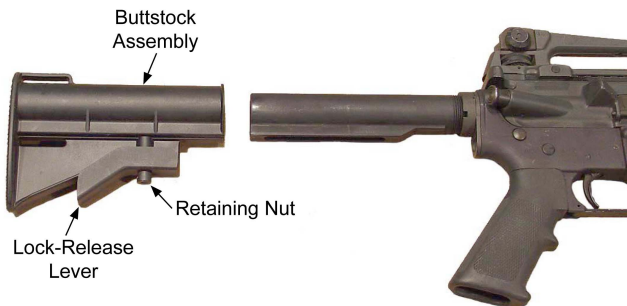

Figure 3-18. M4 / M4A1 CQBW Buttstock Assembly
- (1) Extend buttstock assembly.
- (2) Grasp the lock release lever in the area of the retaining nut.
- (3) Pull downward on rear of lock release lever.
- (4) Slide buttstock to the rear to separate the buttstock assembly from the lower receiver extension. Refer to Figure 3-18.